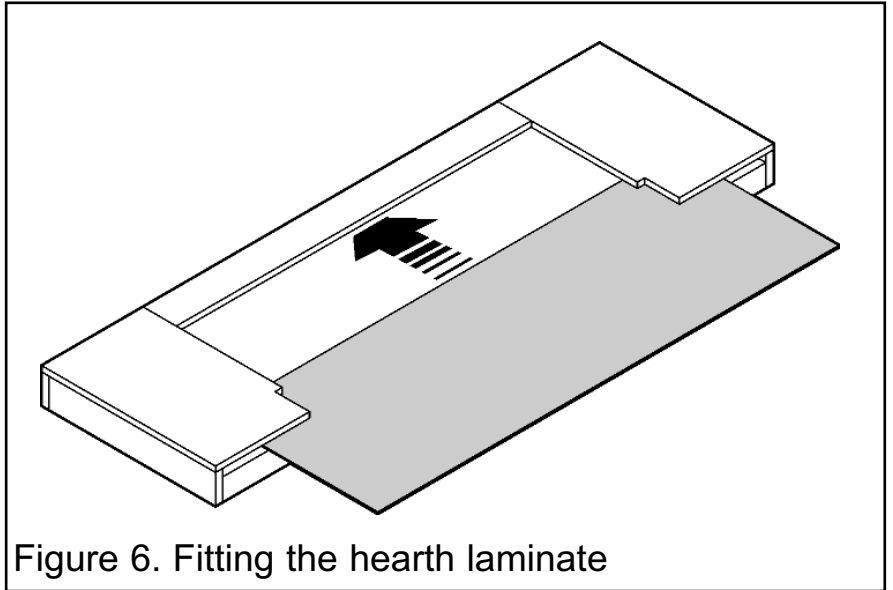

Figure 6. Fitting the hearth laminate
- Decide which side of the Hearth Laminate (G) will be used. Slide the laminate, with the chosen side on top, into the slot at the rear of the hearth (H) and over the top of the heat resistant board (J), which should already be in place. Push it in so that the laminate goes into the slot at the front of the Hearth (See figure 6).